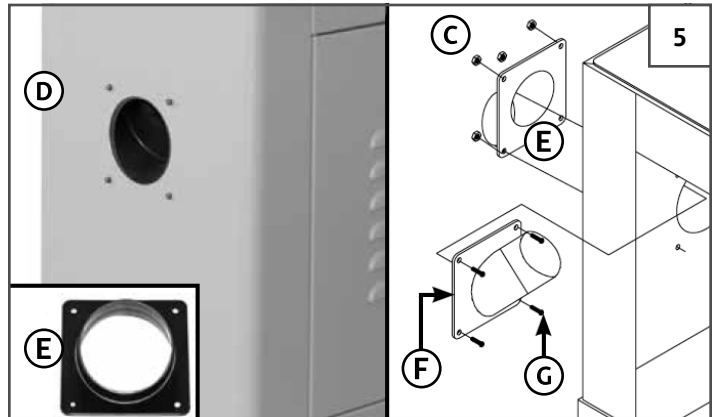

FIGURE 5: INSTALLING DUST FITTING
1. Using an 8 mm open end wrench, loosen and remove the four **NUTS (C)** located on the left side of the **BASE CABINET (D)**. See Figure 5.
2. Attach the **DUST OUTLET (E)** to the **DUST CHUTE (F)** located inside the cabinet, inserting **SCREWS (G)** through the **DUST OUTLET** mounting holes.
3. Reinstall the **NUTS (C)** to secure the **DUST OUTLET**.